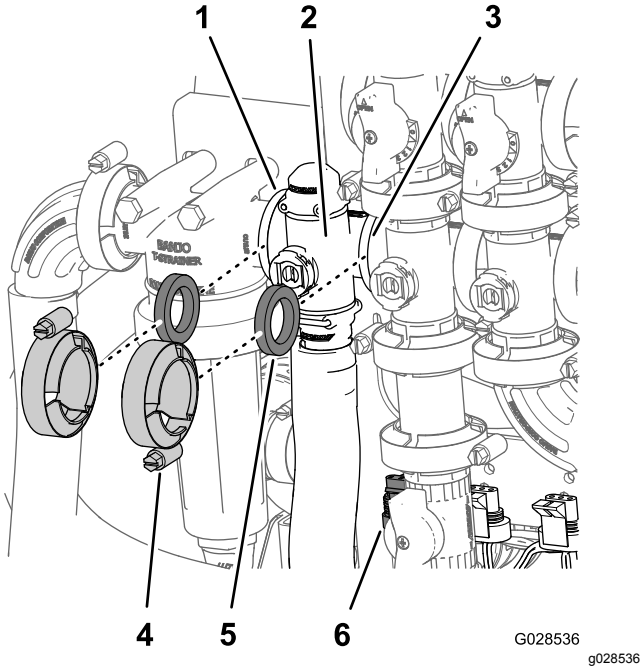

Figure 48
1. Remove clamps and gaskets that secure the manifold for the rate control valve (Figure 48).